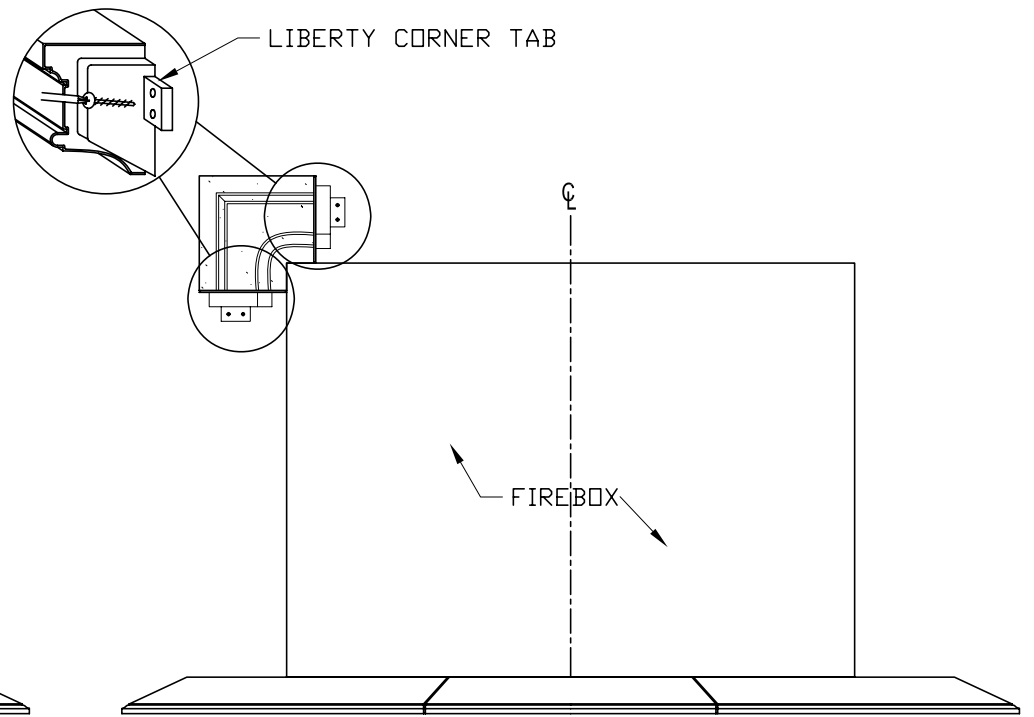
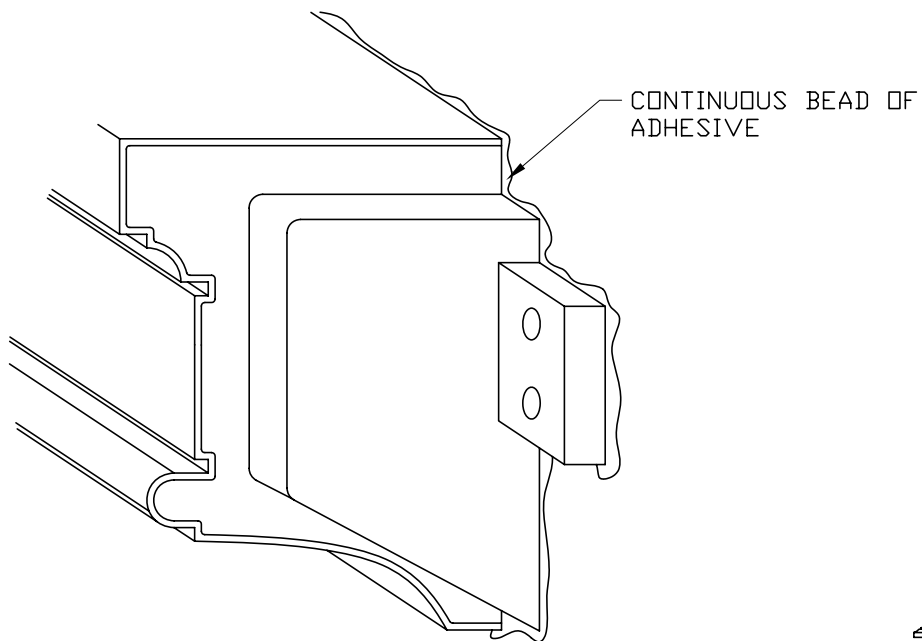

Fig. 1-2
Fig. 1-3
- (b) Pre-drill & countersink at predetermined screw location on tabs of corners (Fig. 1-2). Apply generous/continuous bead of construction adhesive to back of the corners, position back to set location and screw tight to wall (Fig. 1-3).